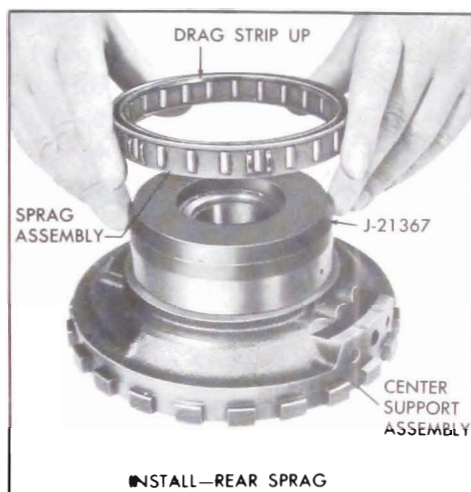

Figure 5-703
17. Using Tool J-21367, as a pilot, install the rear sprag assembly on case center support inner race with bronze drag strips up. See Figure 5-703.